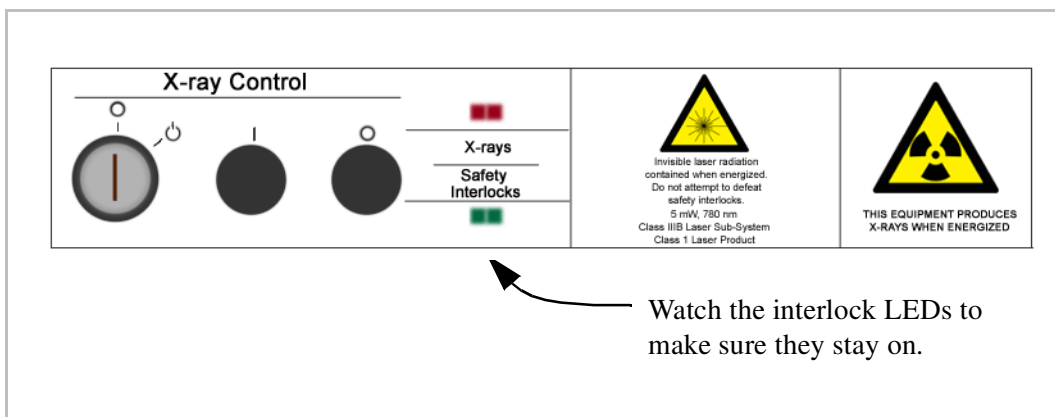

Figure 14 Operator Control Panel
- f. From the Operator Control Panel (Figure 14 on page 27) turn the X-Ray Enable Key to **Enable**, then push the X-Ray **On** Button.